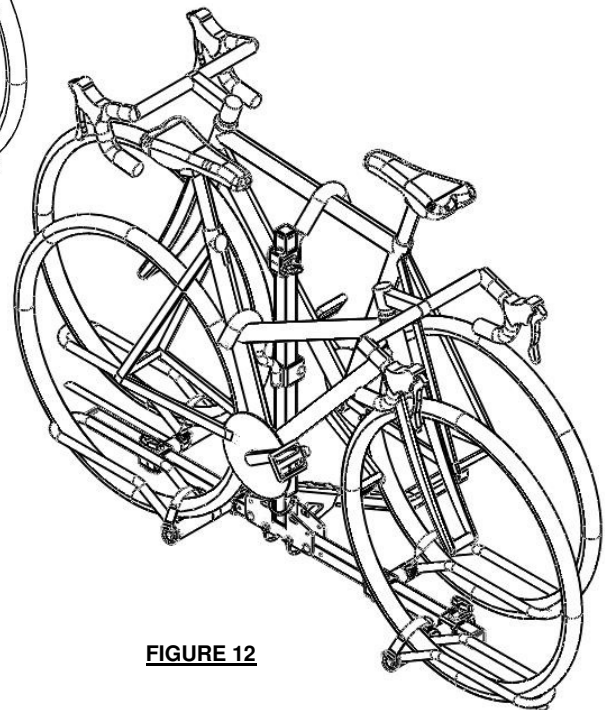

FIGURE 12
6. Load second bicycle as describe in steps 2 thru 5. Reverse direction of second bicycle to prevent handle bar interference. (Fig 12)